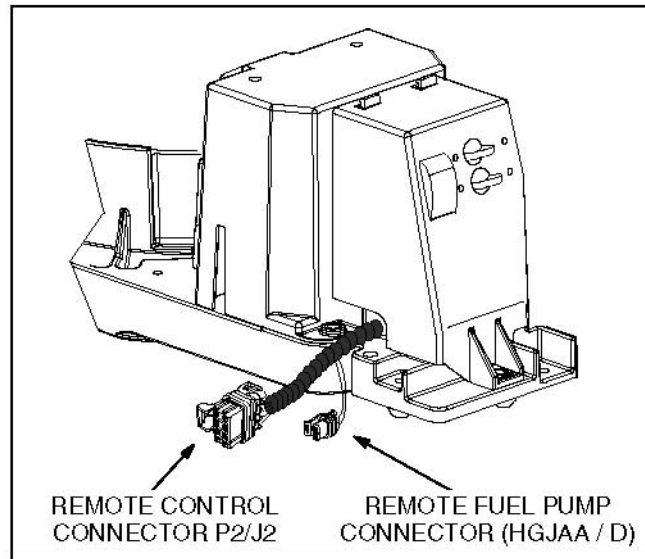

FIGURE 22. REMOTE CONNECTORS
Figure 22 illustrates the sealed 2-pin remote fuel pump connector for models HGJAA and HGJAD. Instead, models HGJAB and HGJAE generator sets have, two (2) separate quick-connects for connection directly to the leads of the mounted gasoline fuel pump (Section 9.2.9) or LPG shutoff solenoid (Section 9.3).